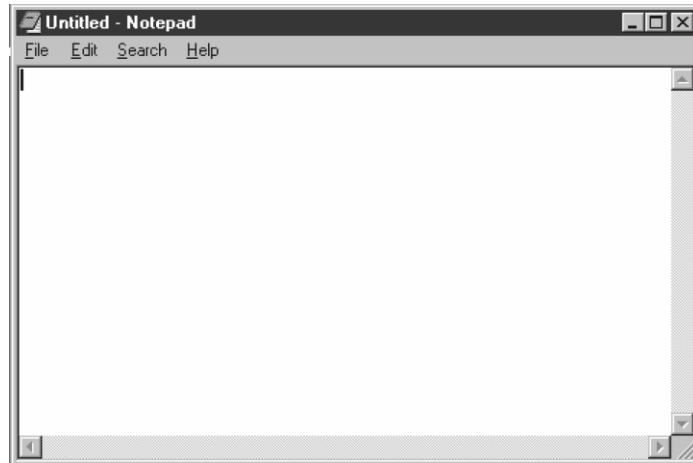

Fig. 11-13
- ② Click program.
- ③ Click Accessories.
- ④ Click Notepad.
- ⑤ The Notepad should appear (Fig. 11-13).